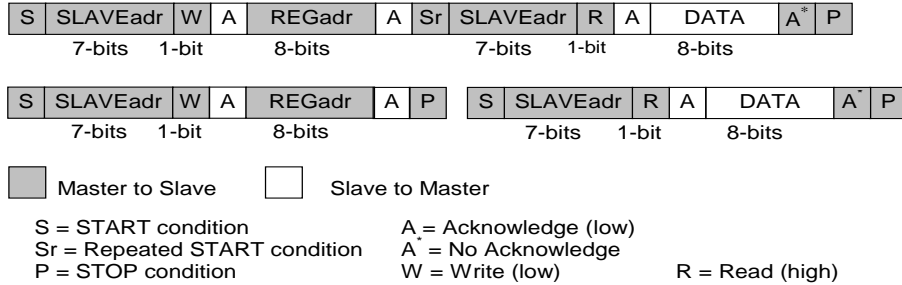

**Figure 10: I2C Byte Write (SDA Line)**
The I2C bus is monitored for a valid slave address whenever the interface is enabled. It responds immediately when it receives its own slave address. The acknowledge is done by pulling the SDA line low during the following clock cycle (white blocks marked with A in Figure 10 and Figure 11).
The protocol for a register write from master to slave consists of a START condition, a slave address with read/write bit, and the eight-bit register address followed by eight bits of data, terminated by a STOP condition. DA9141-A responds to all bytes with acknowledge (A), see Figure 10.